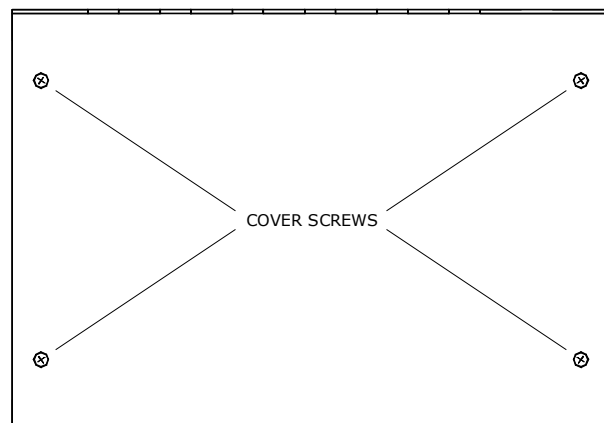

FIG 2. Command Module.
5. Remove the cover of the command module by unscrewing the four screws located at each corner on top of command module (see **FIG. 2**).
11. Place the cover back onto the command center and tighten down the four screws. Do not over tighten the screws (see **FIG 2.**).